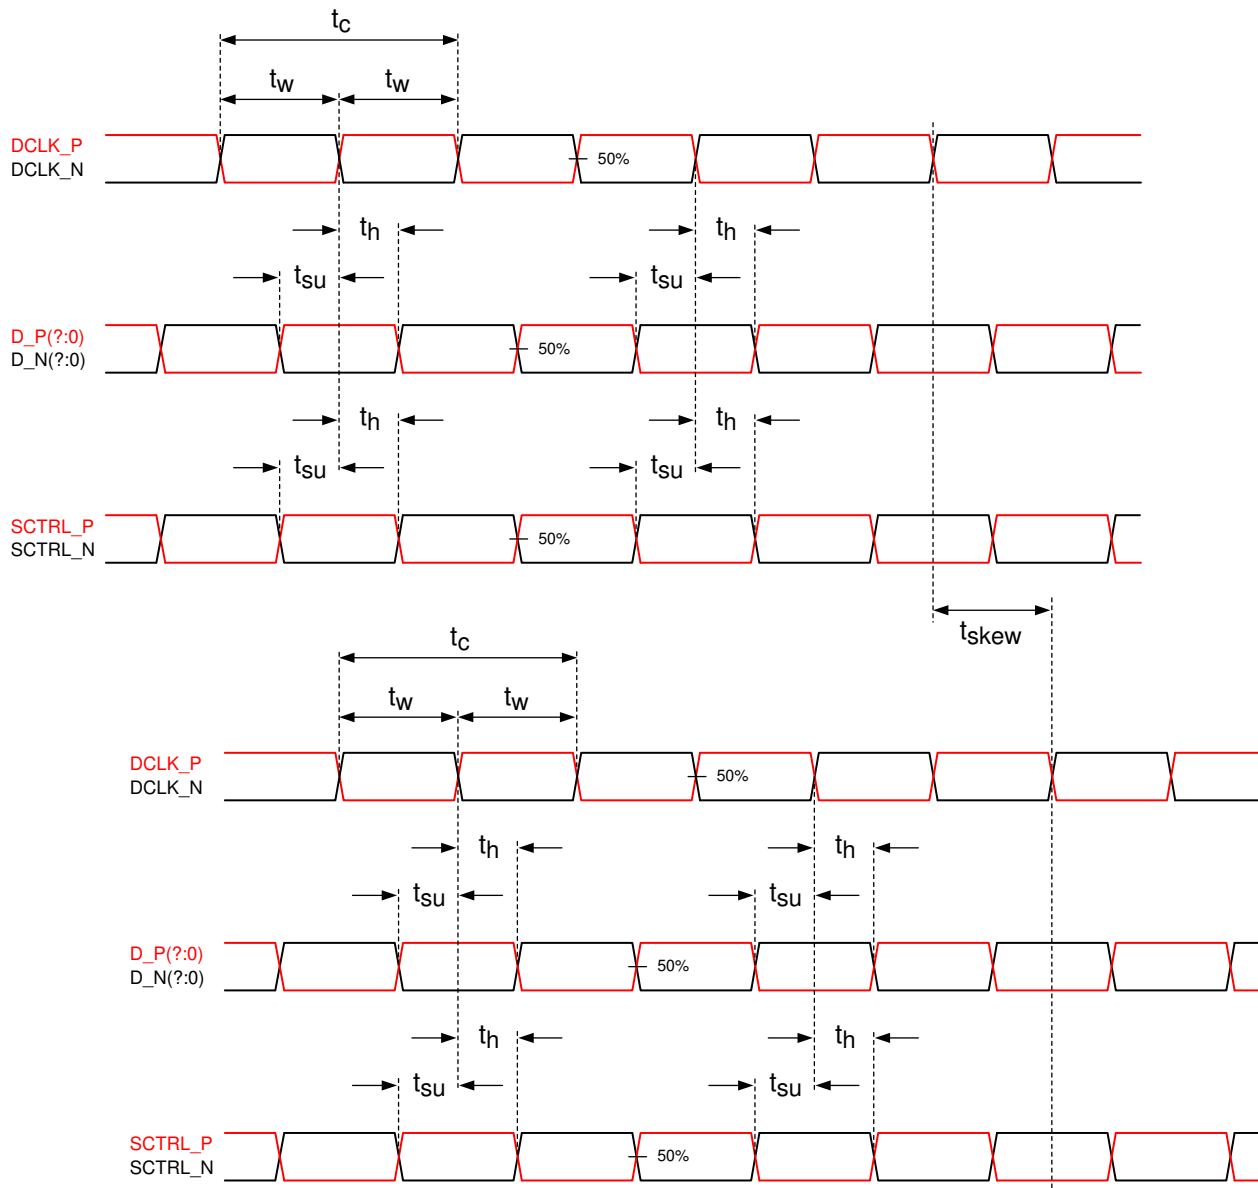

Figure 6-6. Timing Requirements
- (9) See LVDS Timing Requirements in Section 6.8 and Figure 6-6.